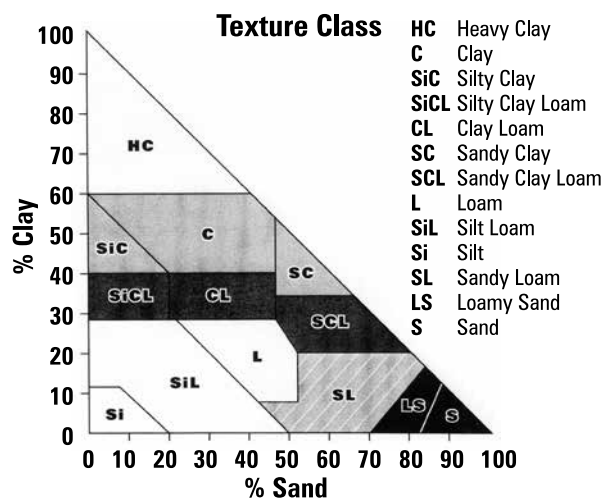

Figure 1. Soil texture triangle
- Soil texture (per cent sand, silt and clay within a soil) affects drainage, rate of spring warming, water-holding capacity, etc. (see Figure 1).